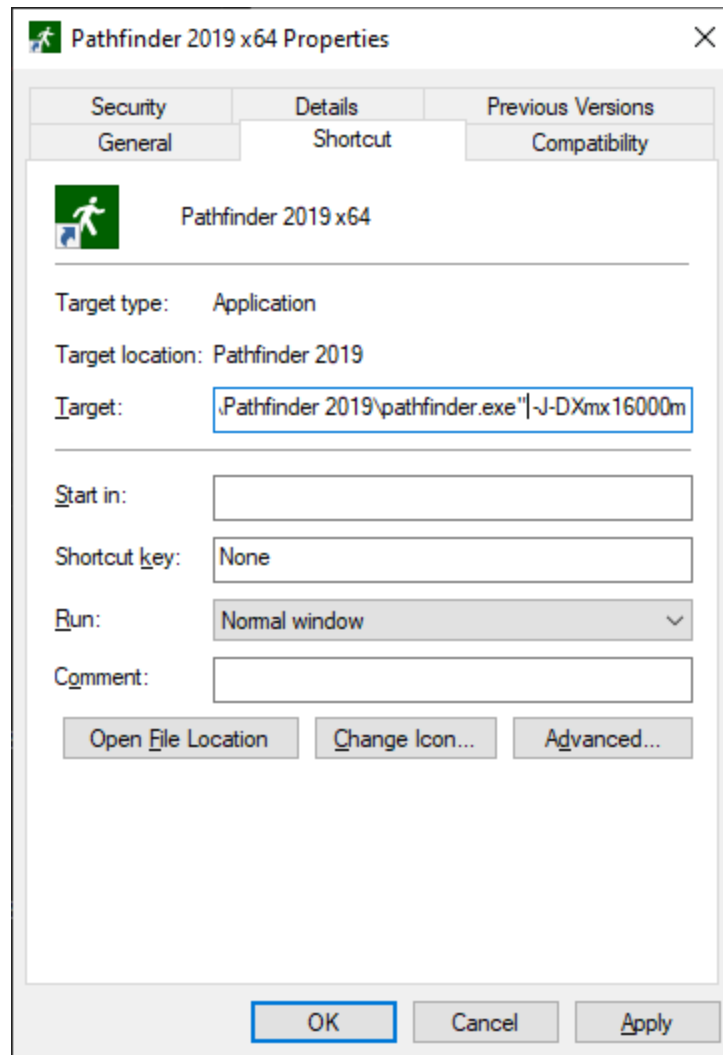

Figure 163. Example Shortcut Dialog
4. At the end of the **Target** field, type a space on the keyboard and then `-J-DXmx16000m`. The shortcut dialog will look similar to Figure 163.